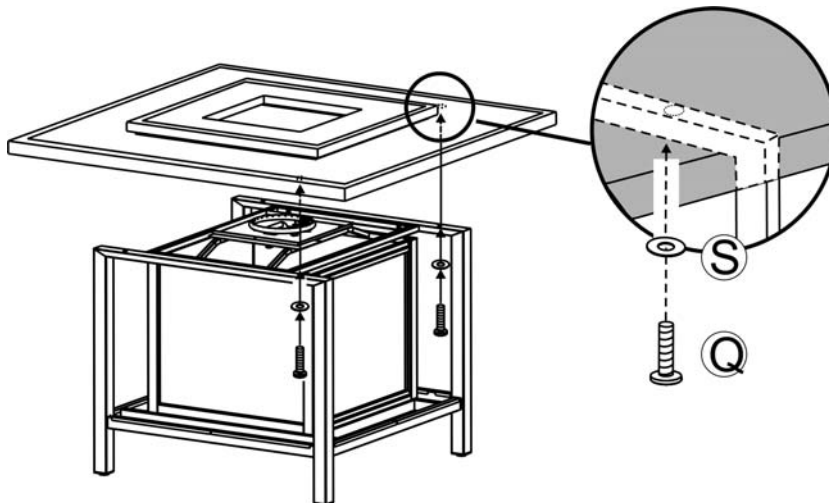

Figure 6
6. Place the tabletop onto the assembled firepit base. Secure the tabletop to the firepit base by using four 1/4"x40mm bolts and Ø20xØ6.5x1.0mm washers as shown in Figure 6. **Hand tighten only.**